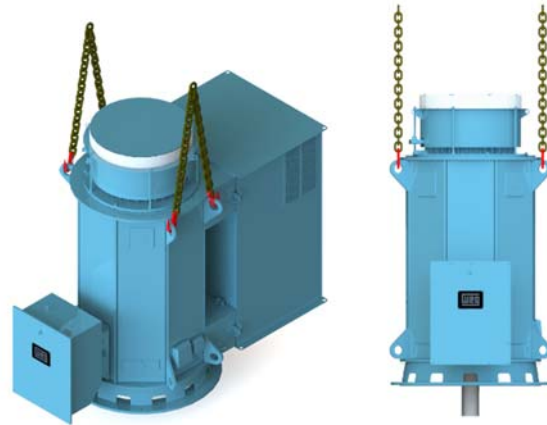

Figure 3.1: Handling of motors
- Vertical motors should be handled as shown in Figure 3.1;